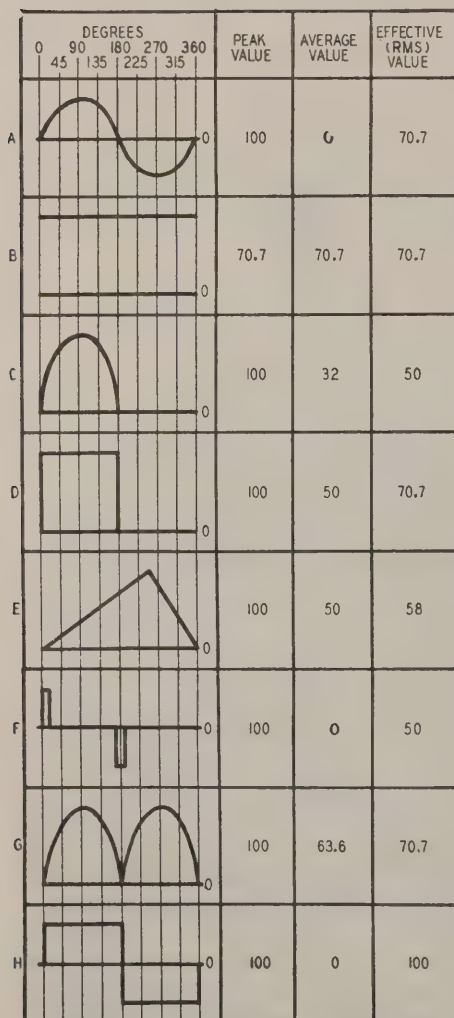
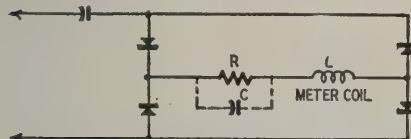

Fig. 1—Shape of the waveform affects peak, average, and effective values.
Fig. 3—Basic a.c. voltmeter circuit.
This is best illustrated by imagining the voltage of Fig. 1-a being measured by our voltmeter. The coil swings in one direction for the positive half of the cycle and in the opposite direction for the negative half. If both alternations are equal in amplitude, we have equal swings. The average of the two swings is, of course, zero, which is what the meter reads. The swinging of the needle is visible only if the frequency is very low. The meter reading is the average of the instantaneous motions of the needle, the average of the currents flowing through the coil over a short period of time. All d.c. meters are calibrated in average values.
What is the significance of the *average value*? Vacuum-tube potentials and currents may vary with instantaneous signal level but proper operation is often determined by the average values. On the other hand, circuit components and the tubes themselves must be selected on the basis of the heating effect of the currents passing through them, which depends on the effective or r.m.s. value. For Fig. 1-b, a d.c. "wave," the average, effective, and peak values are alike. The d.c. meter is designed to measure this type of voltage accurately for only then can it register the heating effect directly. Compare this with Fig. 1-a where the meter would read nothing, yet we know the effective value is as great as for Fig. 1-b.
conventional meters. Step 1 in our calculations is to divide one cycle of any wave into a number of equal time intervals. The greater the number, the better the accuracy. In Fig. 1, the waves are divided into eight parts, though this is far too few for any accuracy. We will then note the amplitude at each of these intervals.
The direction of the current flow has no bearing on its heating effect. Both the negative and positive alternations of a current heat equally a resistor through which it flows. (Note that Fig. 1-g has the same effective value as 1-a.) In other words, polarity is ignored for r.m.s. calculations, but not for averages.
Step 2 is to calculate the average value by adding all the amplitudes and dividing the sum by the number of intervals. Table I lists the data for four of the waves illustrated in Fig. 1. The others are obtained similarly.
As a sample of the calculation of the average value, for Fig. 1-d, the sum of the amplitudes is 400 volts. Dividing by the number of points taken, 8, we arrive at an average value of 50 volts. For 1-a we get zero volts.
The *effective* value is next calculated. The heat produced by a current varies directly as the square of the current ($P = I^2R$), or of the voltage ($P = E^2/R$). The term r.m.s. means "the square root of the average of the squared amplitudes." That is, the effective current is that whose square is the average of all the heating effects. For a sample calculation, for Fig. 1-d (see Table I), the sum of the squared values is 40,000. Dividing by 8, the average of the squares is found to be 5,000. The square root of 5,000 is 70.7 which is the r.m.s. value for the wave. Calculating for Fig. 1-h, we find the effective value is equal to the peak, and the average value to zero.
It is somewhat simpler to understand this last, if we imagine any a.c. wave as it would appear *after full-wave rectification* as in Fig. 1-g compared with 1-a. This is in agreement with what has been said about the direction of the current flow being unimportant. The calculations are based on this "rectified"
Coming back to our d.c. voltmeter, let's see what happens in the measurement of pulsating d.c. voltages. If Fig. 1-d were the plate voltage of a tube, the 50-volt average value would be used in determining the gain or power-handling ability of the tube. The 70.7-volt r.m.s. value would be needed to calculate the wattage of the load resistor. The peak value of 100 volts should be known to select tubes and capacitors that won't break down. The meter, however, is giving us only the
With a.c. measurements, further complications appear. Fig. 3 represents a bridge-type a.c. voltmeter circuit. The sine wave of Fig. 1-a is changed by the rectifiers to the shape of 1-g and is ap-
The other method of calibrating a.c. meters to read r.m.s. values is to reduce the multipliers on the a.c. ranges to increase the deflection for a given average value. This permits the use of the same dial for both d.c. and a.c. readings. In some meters, a complete set of special multipliers is used for the a.c. scales. Other manufacturers shunt the d.c. multipliers with capacitors as shown dotted in Fig. 3. The capacitors have no effect on d.c. but reduce the opposition to a.c.
Now, consider the effect of the special waveforms on these a.c. meters. Since rectifiers of some sort are used with all a.c. meters, we shall consider only the pulsating d.c. waves. Remember, too, that when full-wave rectification takes place, the pulsating d.c. has the same average and effective values as the original a.c. wave. (Meters rarely use half-wave rectifiers for this reason. When they do, additional calibration correction must be applied. Otherwise, as we note from comparing Figs. 1-c and 1-g, the reading will be too low). For Fig. 1-c, the ratio of the r.m.s. to the average is 1.24; for 1-d, 1.4; and for 1-e, 1.16. These, incidentally, are called *form factors* for the waves. Important to us is that the calibration for r.m.s. values, whether it be
Where the multiplier is shunted with a capacitor, there is additional error due to the effect of the capacitor on the waveshape. It tends to block the low frequencies in the special wave. In addition, it is possible for resonance to occur at certain frequencies because of L and C in series (Fig. 3). Of course, shunt capacitances still exist to bypass higher frequencies. At high frequencies, many rectifiers will not operate. All of which stresses the fact that even a knowledge of the form factor of a wave is not sufficient to correct a reading obtained with such an instrument. The solution seems to be the use of an a.c. v.t.v.m. Again calibration introduces error. Most v.t.v.m.'s operate on the peak value of a wave. This must be converted to an r.m.s. value to be useful. In other words, the needle deflection must be reduced by increasing the size of the multipliers or the dial must be marked with lower values since the reading is too high. For sine waves, the ratio between the peak and r.m.s. is 1.41. Compare this with 2.0 for Fig. 1-c, 1.41 for 1-d, and 1.72 for 1-e. It would be correct for the square wave but too low for the other two. The v.t.v.m., too, has the same faults as the rectifier instrument as far as waveshape changes, resonance, and shunt capacitance. In addition, for waves with unequal alternations, we may get different readings when the test leads are reversed. This does not take into consideration error due to poor grounding of the meter. Some of the troubles are avoided by using special probes.